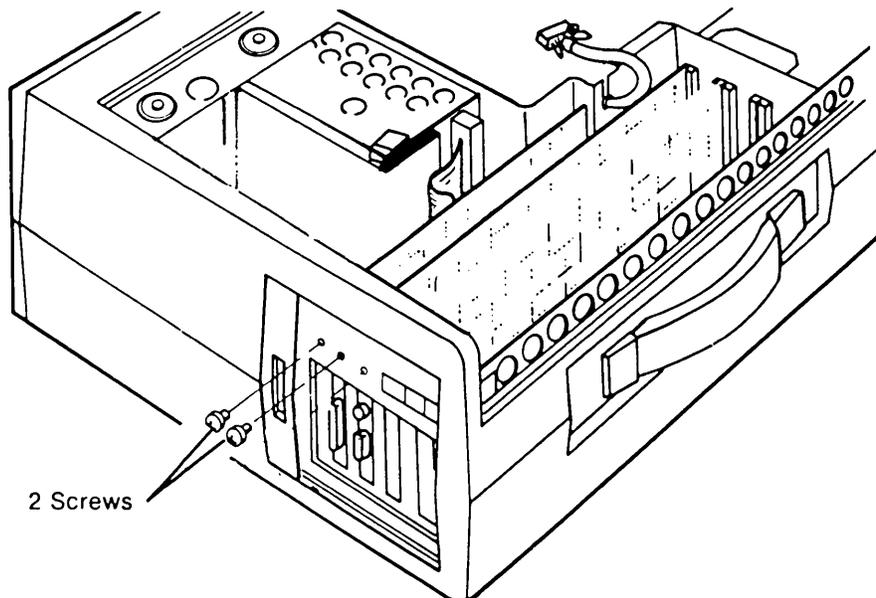

Figure 11-9. Removing the Screws Which Hold the Diskette/Printer Adapter Board and the VDU Adapter Board.
6. Remove the retaining screws that secure the diskette/printer and the VDU adapter boards to the system chassis (see Figure 11-9).